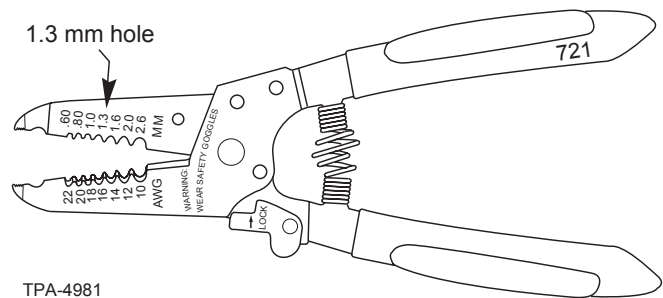
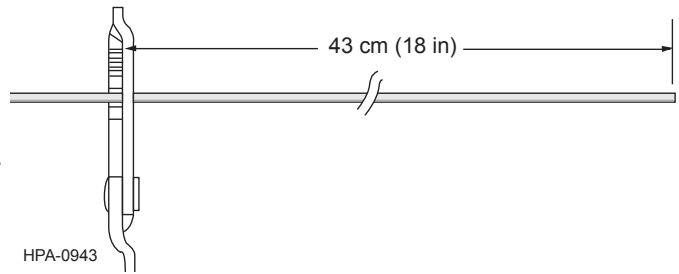

Figure 9
Figure 10
Step 1: Insert the buffer tube into the 1.3 mm opening of the Ripley/Miller 721 tool (Figure 9) approximately 18 in (45 cm) from the end of the tube as shown in Figure 10.